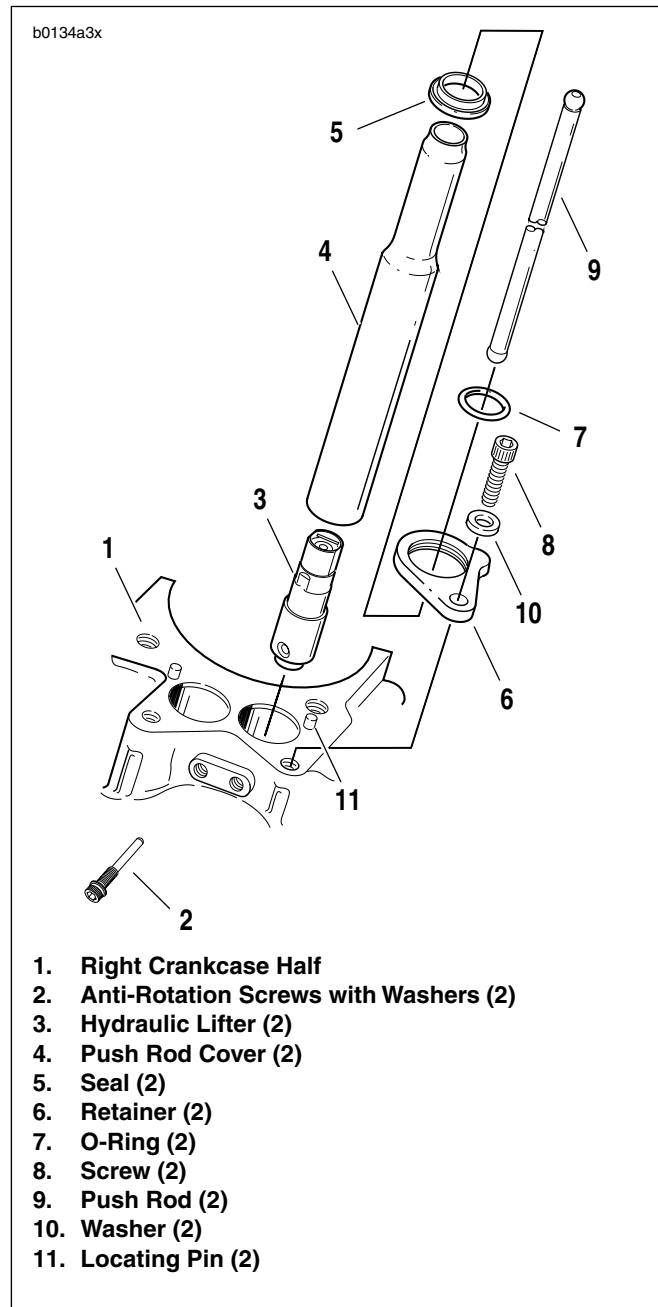

Figure 3-61. Hydraulic Lifter Service
3. See Figure 3-61. Remove both push rod covers (4).
- a. Remove screw (8) and washer (10).
- b. Lift retainer (6) and seal (7) upward a few inches on push rod cover (4).
4. Remove both hydraulic lifters (3).
- a. Remove two anti-rotation screws with washers (2).
- b. Remove lifters (3) from crankcase bore using a thin-bladed screwdriver. Mark the location and orientation (front/back) of each lifter.
3. See Figure 3-61. Insert lifter (3) into bore in crankcase (1) with lifter oil hole facing towards the oil trough. Rotate lifter so that flats at upper end of lifter faces the front and rear of the engine. If the lifter is installed incorrectly, anti-rotation screws (2) cannot be inserted.
- a. Insert anti-rotation screws with washers (2) in the threaded holes in crankcase.
- a. Slide **new** seal (5) and retainer (6) over top of push rod cover (4).
- b. Position **new** O-ring (7) at top of push rod cover.
- d. Lower retainer (6) with seal (5) onto crankcase, aligning locating pin (11) with hole in retainer.
- e. Insert screw (8) with washer (10) through hole in retainer (6). Thread screw (8) into tapped hole in crankcase. Tighten screw to 15-18 ft-lbs (20-24 Nm).